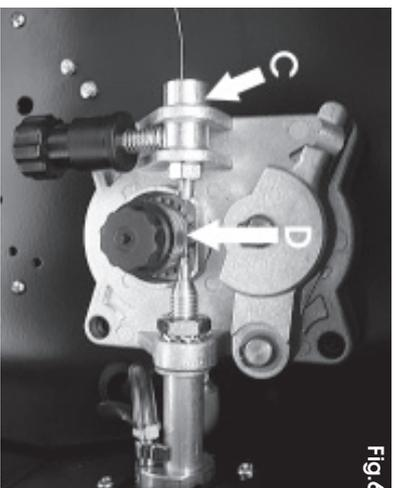

Fig.6
- Pull out the end of the wire from the rim of the spool, **taking great care NOT to release it.** The spool is wound firmly and should remain this way. Releasing it at this stage could cause the wire to unwind, causing a 'birds nest tangle'. Apply tension to the wire spool by tightening the Tensioning bolt (6, Fig.4) Ensuring the wire is straight and not kinked in any way, clip off the end with a sharp pair of snips ensuring there are no burrs or sharp edges. Proceed to feed it through the guide tube (C, Fig.6), over the groove on the roller (D), and into the wire liner, by about 10 - 15 cm.